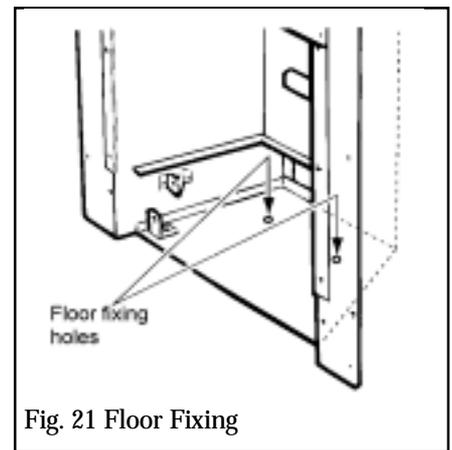

Fig. 21 Floor Fixing
7.1.2.9 Drill a hole into the fireplace floor through each of the two holes in the base of the convection box, using a no.12 masonry drill (see figure 21).